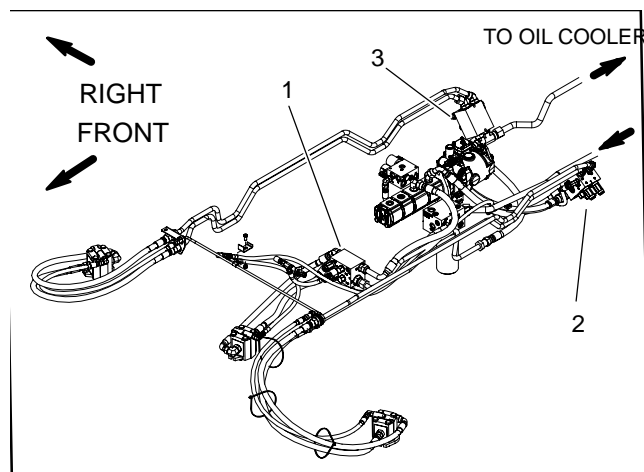

Figure 40
3. Locate PTO manifold to be tested (Fig. 40). Thoroughly clean junction of manifold fitting and hydraulic hose at manifold port (M1). Disconnect hydraulic hose at manifold port (M1).